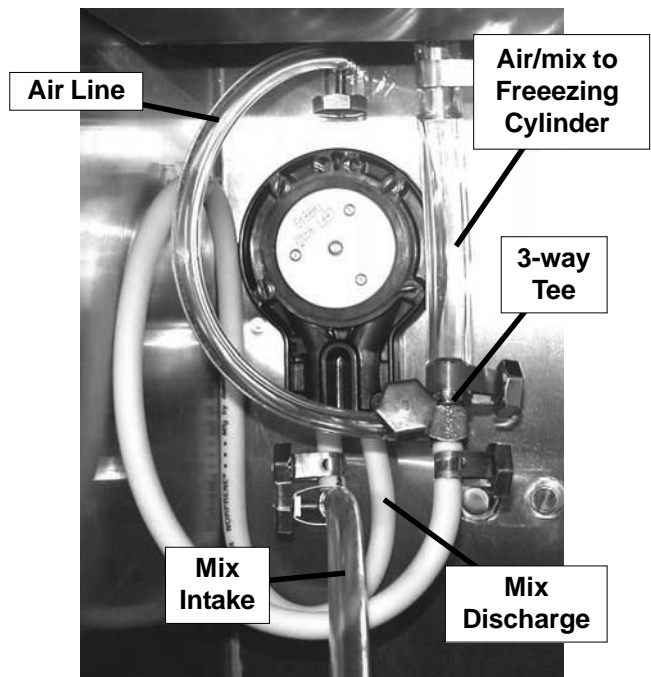

Figure 3-9 Mix Pump Hose Routing
- A. **Mix Operation:** The peristaltic mix pump contains one continuous mix pump hose. When looking at the face of the peristaltic mix pump, the left side of the hose is the mix intake or pickup. The right side of the hose is the mix discharge. Mix is drawn up the pickup side of the hose and transferred through the discharge side to the machine (Fig. 3-9).